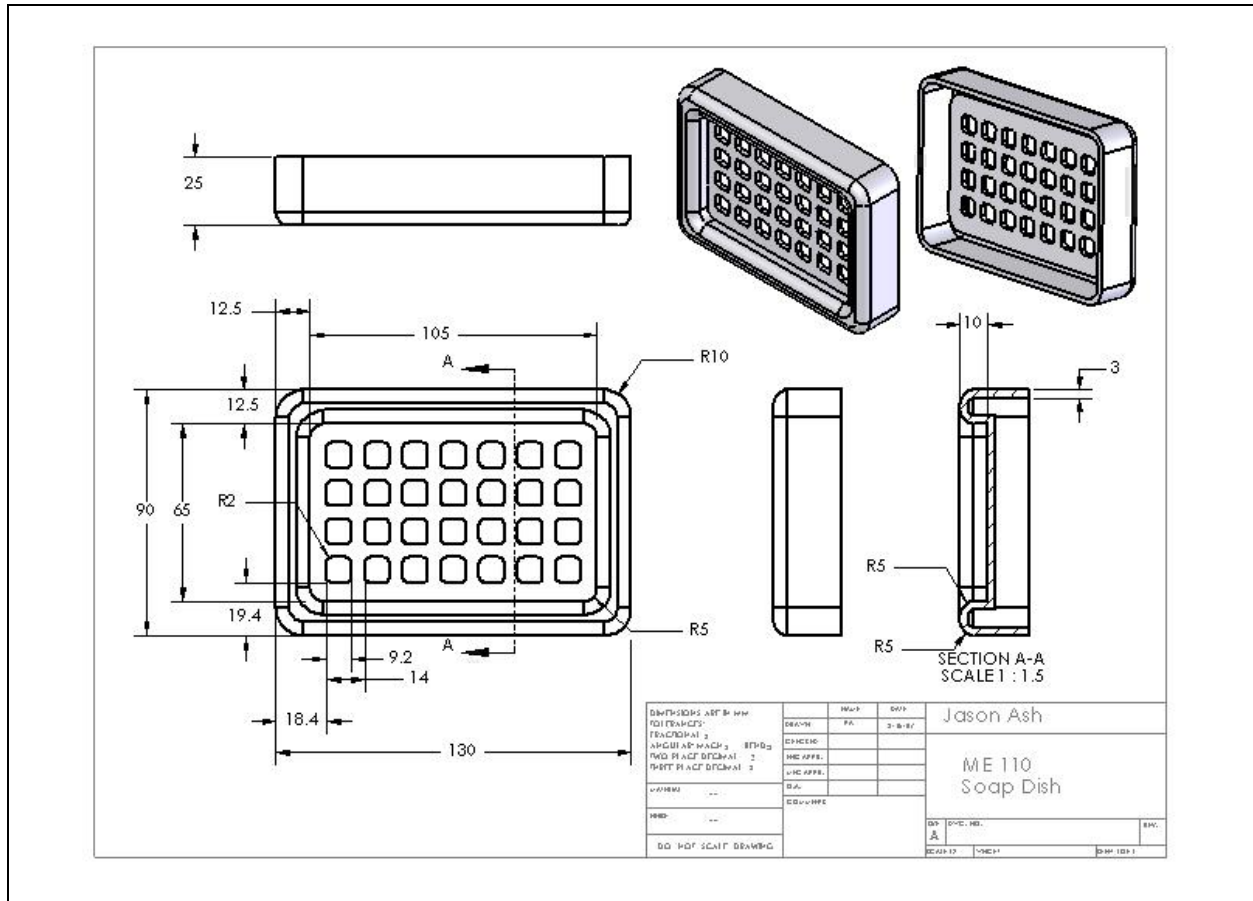

Figure 1. Final drawing to be submitted of soap dish using fillets and linear pattern (dimensioning required)
1. Create the following soap dish and submit a hardcopy of the SolidWorks drawing file (see Figure 1).